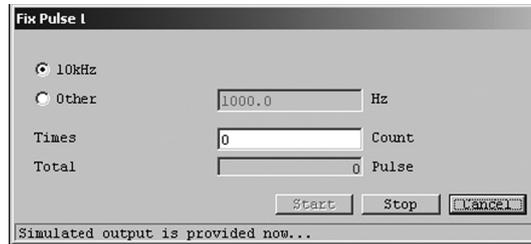

Fig.123
- ⑤ Click the "OK" button to cause the simulated output value to be outputted. While the simulated output value is being outputted, a message at the bottom of the window will indicate that the system is "creating simulated output", as shown in Fig. 123.